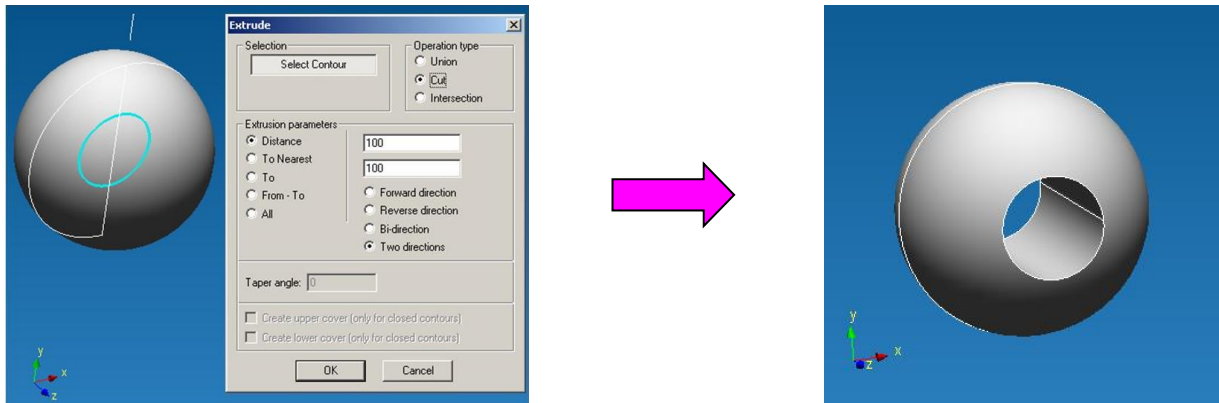

Fig. 2.7.70 Extrude with cut operation
*Cut* – the result of this operation is the earlier created solid body minus the volume of a newly created body (Fig. 2.7.70).